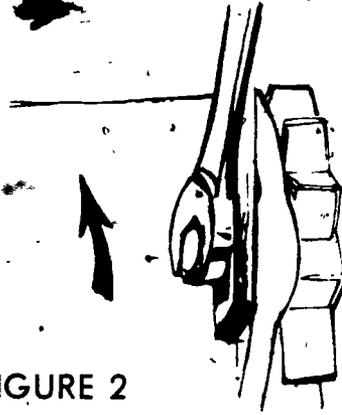

FIGURE 2
3. Move the generator toward the engine (Figure 2)